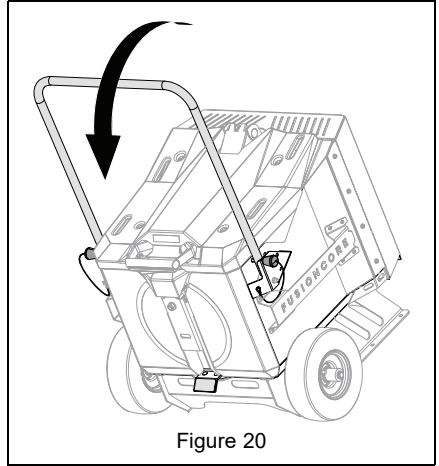

Figure 20
4. Place foot on footstop for leverage and tip unit back to transport. See Figure 20.